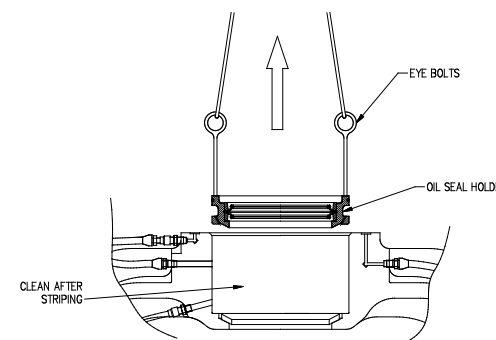

Fig. 6.4.3
5. Remove the oil seal clamp ring, oil seal holder and the scraper seal. Clean the housing thoroughly. (Fig. 6.4.3).